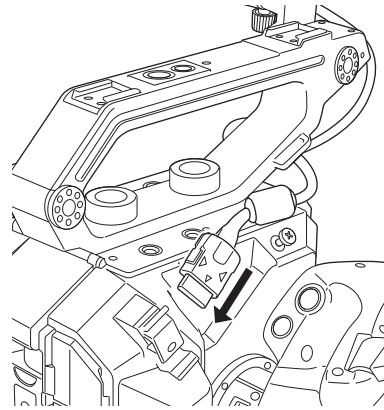

Fig. 2
**3** Open the terminal cover of the <LCD> terminal, and connect the LCD monitor unit cable to the <LCD> terminal. (Fig. 2)